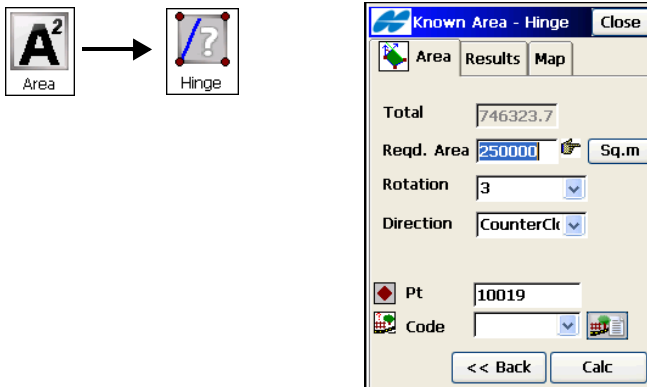

Figure 10-13. Known Area - Hinge – Area Tab 1
On the **Known Area – Hinge** screen (Figure 10-13), the Hinge method calculates the coordinates of a point that meets the following conditions:
1. Select the point list, use the arrow buttons to change the order, as desired and tap the **Next** button (Figure 10-13 on page 10-12).